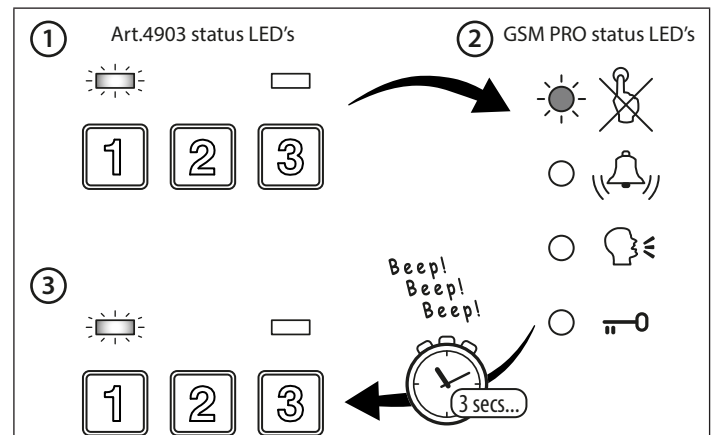

Fig. 104
2. The green data LED (**Fig.104, ①**) on the Art.4903 and the red busy LED (**Fig.104, ②**) on the GSM PRO will flash one after the other;
3. The green data LED (**Fig.104, ③**) will then flash once and the appropriate relay (RLY1 or RLY2 depending on setup) will activate and keypad will emit a series of 1 second interval beeps for the duration of the programmed relay time.